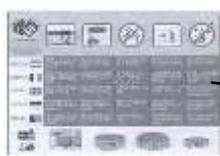

fig. 29
- You must place the Warning Sticker in a visible place, fig. 29, 30.